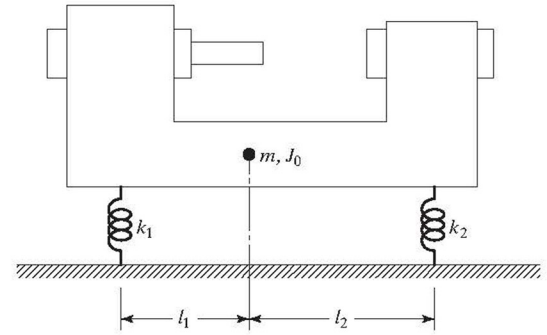

FIGURE 5.27
- 5.8** A machine tool, having a mass of  $m = 1000$  kg and a mass moment of inertia of  $J_0 = 300$  kg-m2, is supported on elastic supports, as shown in Fig. 5.27. If the stiffnesses of the supports are given by  $k_1 = 3000$  N/mm and  $k_2 = 2000$  N/mm, and the supports are located at  $l_1 = 0.5$  m and  $l_2 = 0.8$  m, find the natural frequencies and mode shapes of the machine tool.